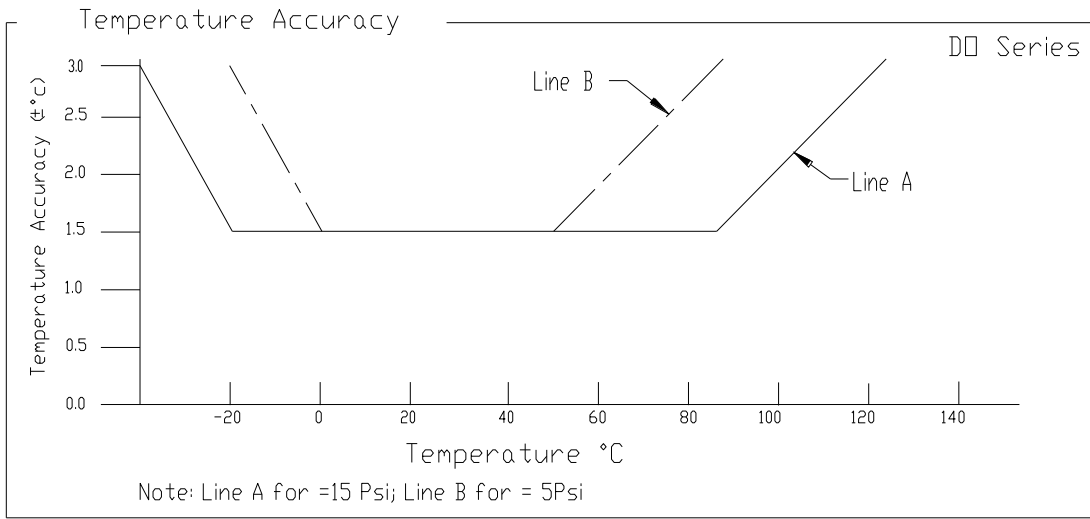

Fig 2
- The deviation from a best fit straight line (BFSL) fitted to the output measured over the compensated temperature range. For errors beyond the compensated temperature range, see Figure 2.